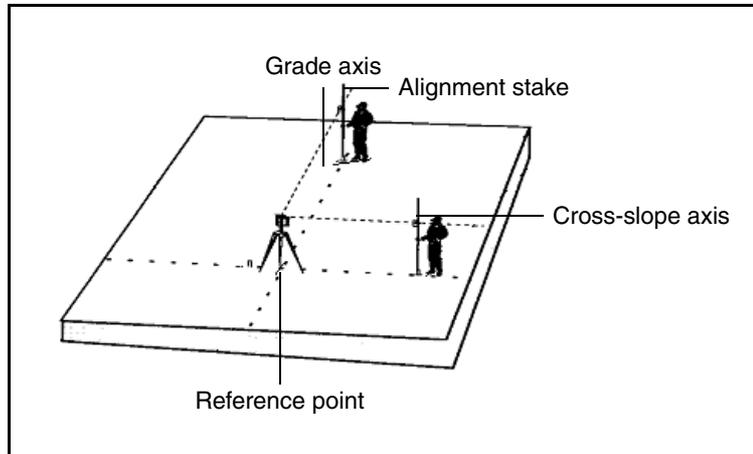

Figure B.1 Dual grade laser transmitter setup
3. Align the axes. Set up the laser directly over a reference point and use the sighting grooves on the top of the laser to align one axis (grade axis) to an alignment stake. See Figure B.1.